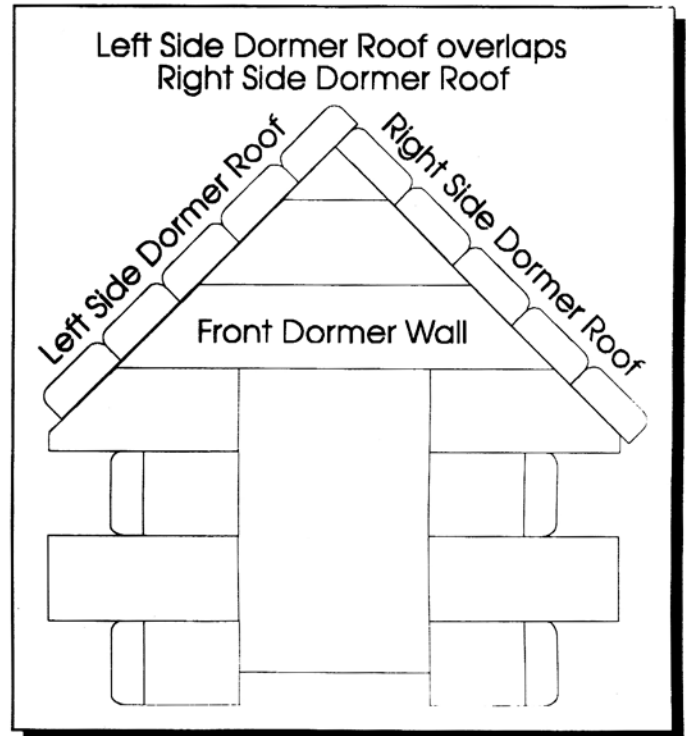

Figure 22- Dormer Roofs to Dormer Walls
a. Glue the Dormer Roofs to the tops of the Dormer Walls with the Left Side Dormer Roof top edge overlapping the Right Side Dormer Roof top edge. See Figure 22.